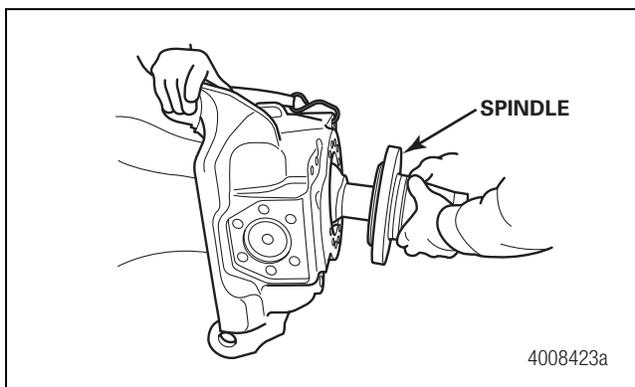

Figure 3.12
1. Remove the mounting bolts from the spindle. Remove the spindle from the knuckle. Figure 3.12.